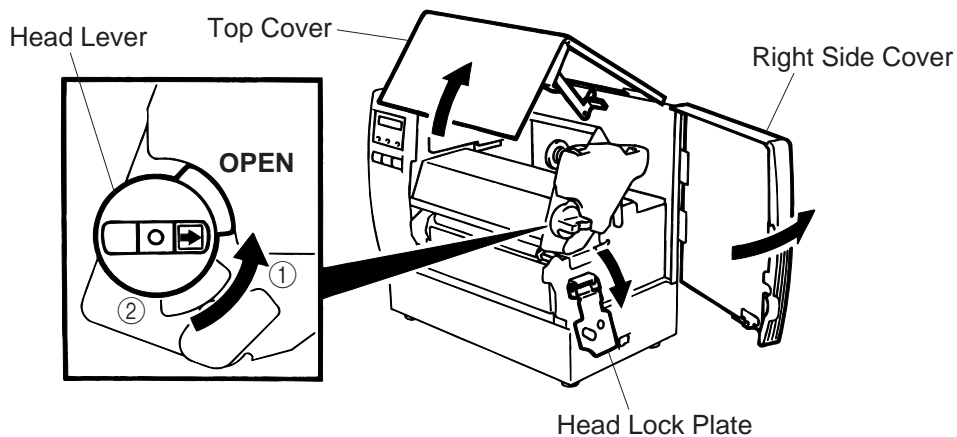

Fig. 7-1
9. Turn the head lever to the proper position depending on the used media. (Refer to Fig. 7-1)
- ①: Labels or thin tag paper
- ②: Thick tag paper
- ① Strip labels from the backing paper for about 200-mm long from the top edge of the label roll.
- ② Lower the backing paper release bar.
- ③ Pass the backing paper between the strip roller and the backing paper holder. After taking up any slack of the media, set the backing paper release bar in position.